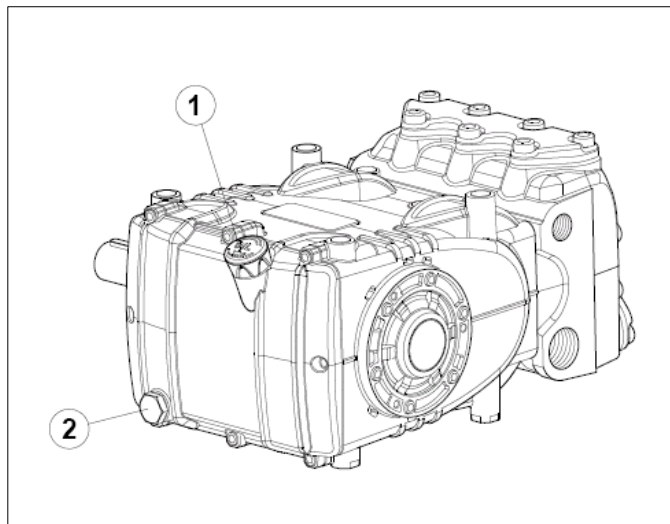

fig. 1
To remove the oil, take out: the oil dipstick pos. ① and then the cap pos. ②, fig. 1.